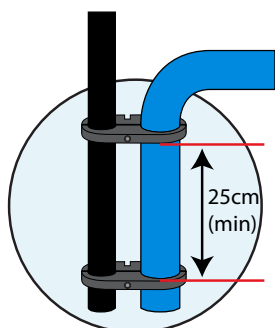

Fig 3.
4. Repeat the process with the second clamp further up the barrier upright. This must be on the vertical section, not the curved and a minimum of 25cm above the first clamp. (Fig 3)